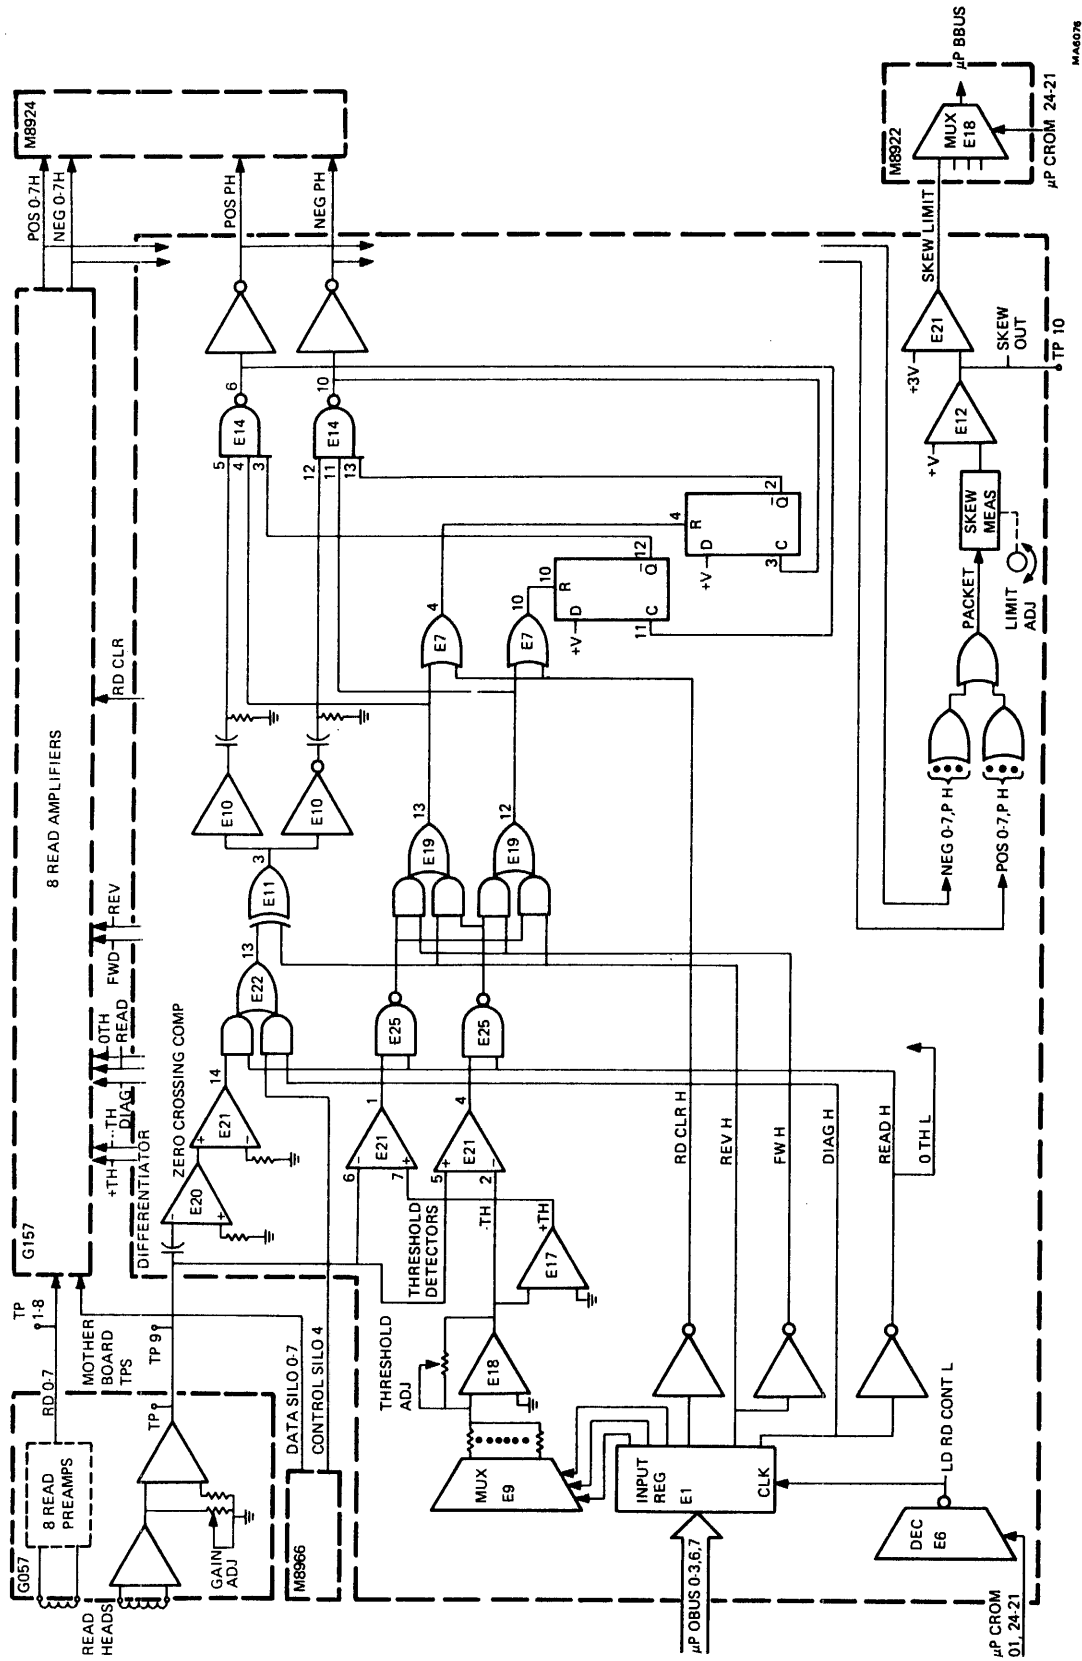

Figure 6-25 Read Function
Figure 6-25 is a simplified diagram of the read function and is referenced throughout this description.
6.6.1.1 Read Preamplifiers – Each of the nine read heads connects to a two-stage read preamplifier. (These preamps are shown in the upper left of Figure 6-25.) The preamps provide maximum flux reversals per inch (frpi) gain at a frequency bandwidth that is equivalent to 1600 to 3200. The nominal PE signal from the read heads is 6 mV p-p. The maximum signal output from the preamps is 16 V p-p and 10 V p-p during preamble/postamble. Each of the nine preamps has a gain adjustment potentiometer. Test points are provided on the G057 read preamplifier board and the motherboard for each output signal.
6.6.1.2 Read Amplifiers – The outputs of the nine read preamps connect to nine read amplifiers, four on each of two G157 boards and one on the M8923 board. M8923 also contains read control circuits common to all nine amplifiers. Each amplifier circuit is the same, so only the parity track amplifier on M8923 is described. M8923 is shown in the central portion of Figure 6-25.
6.6.1.3 Read Control – The threshold generator is shown in the lower left of Figure 6-25. The threshold levels +TH and –TH are selected by the main μ P via INPUT REG E1 and a D/A converter. The D/A converter consists of multiplexer MUX E9 and a resistor ladder on its output. The output of the D/A converter feeds amplifier E18 to produce –TH. Inverting –TH through amplifier E17 generates +TH. A potentiometer is provided to fine tune the thresholds.
The PACKET signal is the inclusive-OR of all read pulses and reflects gap scatter, jitter, and skew. This signal is fed to the skew measuring circuits (lower right of Figure 6-25). The SKEW MEAS circuit measures the time between the arrival of the first pulse and the last pulse for one frame, and converts that time to an analog signal SKEW OUT. The amplitude of SKEW OUT is proportional to the time between the first and last pulse. SKEW OUT is also fed to comparator E21 where it is compared to a reference voltage. If the time between the first and last pulse is great enough, SKEW OUT will reach an amplitude that exceeds the reference level and signal SKEW LIMIT will be asserted. SKEW LIMIT is an input to multiplexer MUX E18 on M8922. SKEW LIMIT asserts μP BBUS when μP CROM 24-21 = 07.